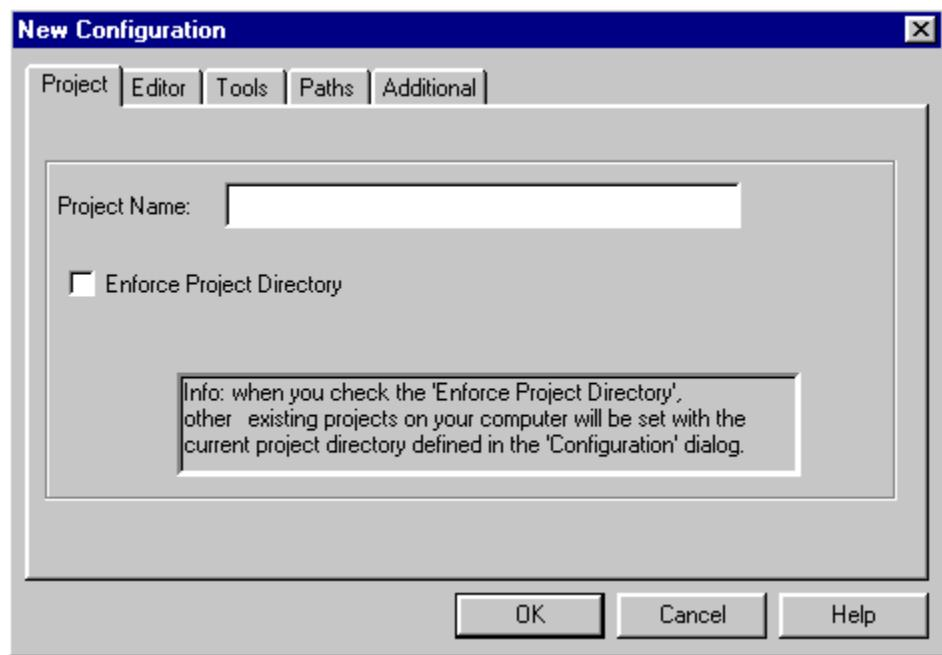

Figure 3-5. New Configuration Dialog Box
6. Set project parameters, starting with the **Project Name** as shown in **Figure 3-5**.
Refer to Figure 3-5 for an example of the project tab in the **Configuration** dialog box. Define the name of the project in the **Project Name** edit box. This name will be displayed in the main **Configuration** dialog box.